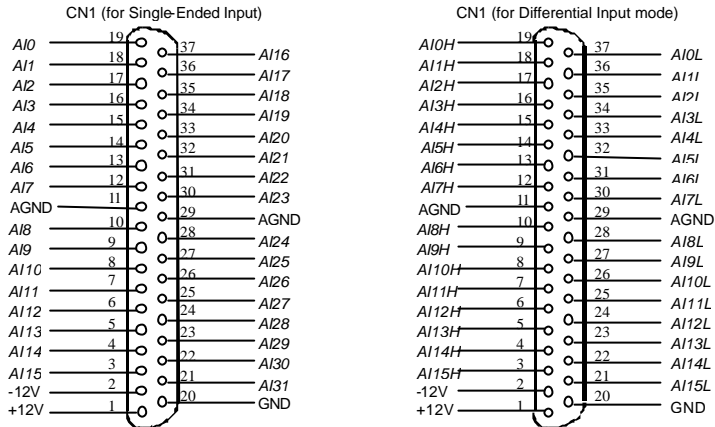

Figure 2.1 Pin Assignment of CN1
The PCI-9114(A) comes equipped one 37-pin D-type connector - CN1. The pin assignment of CN1 is illustrated in the Figure 2.1.